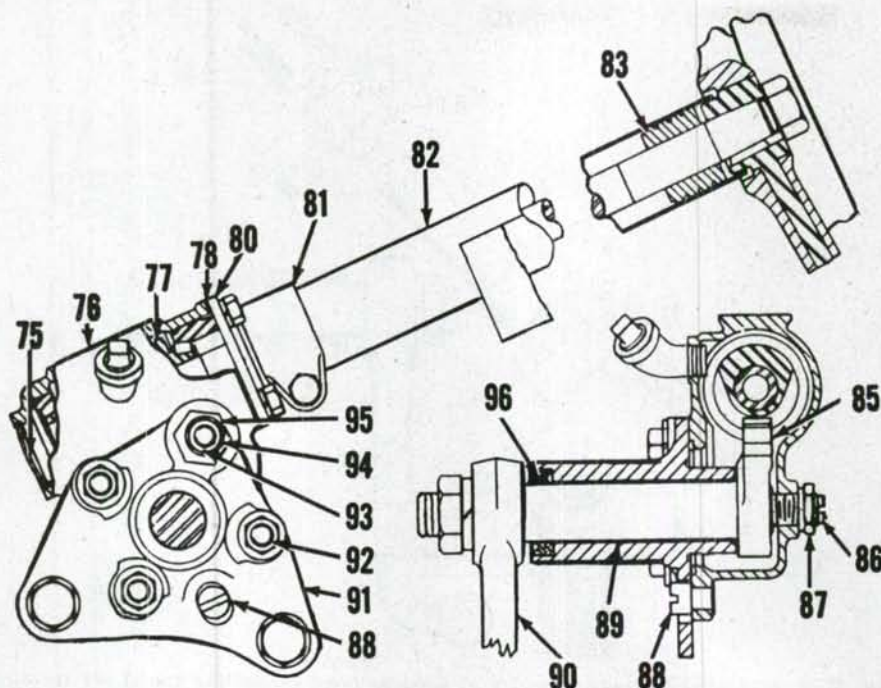

Fig. AC16—Gemmer steering gear assembly as used in early production B and C models.
17. WORM SHAFT END PLAY. First step in making this adjustment is to remove the fuel tank. To reduce play in worm shaft bearings, remove the steering wheel, loosen clamp (81—Fig. AC16) and slide tube (82) up column. Remove cap screws retaining
19. GEAR MESH. To adjust gear mesh, loosen column bracket clamp and locate mid-position of gear by turning steering wheel from one extreme position to the other then back half way. With gear in mid-position, loosen housing retaining nuts $\frac{1}{4}$ turn and eccentric sleeve jam nut (93) $\frac{1}{2}$ turn. Slowly turn eccentric sleeve (95) clockwise while checking amount of gear backlash by feeling play in ball arm. (Turning eccentric sleeve clockwise moves steering gear housing down in relation to sector shaft housing bringing worm and sector into deeper mesh, thereby reducing gear backlash.) Adjust eccentric sleeve until play in ball arm is barely perceptible, when steering wheel is in mid-position. Make last adjustment of the eccentric sleeve in the clockwise direction. After mesh adjustment is completed, tighten eccentric sleeve jam nut, then housing nuts.
20. CENTRALIZATION. Check gear centralization by determining amount of play in ball arm when wheel is turned $\frac{1}{4}$ turn to the right and $\frac{1}{4}$ turn to the left of mid-position. If play is not the same on both sides of mid-position, loosen housing nuts and eccentric sleeve jam nut $\frac{1}{4}$ turn and centralize gear by turning eccentric rivet (88). If there is more play to the right, turn rivet clockwise and if more to the left, turn rivet counterclockwise. After gear has been centralized, re-adjust gear mesh with eccentric sleeve as previously described. Ball arm should be positioned on sector shaft so that steering gear is in mid-position when wheels are straight ahead.
21. OVERHAUL. Gear unit should be removed from tractor. Procedure is readily evident from an examination of Fig. AC16. When reassembling, install worm gear and shaft assembly and adjust worm gear bearings before assembling balance of steering gear. For complete adjustment procedure, refer to paragraphs 17 through 20.